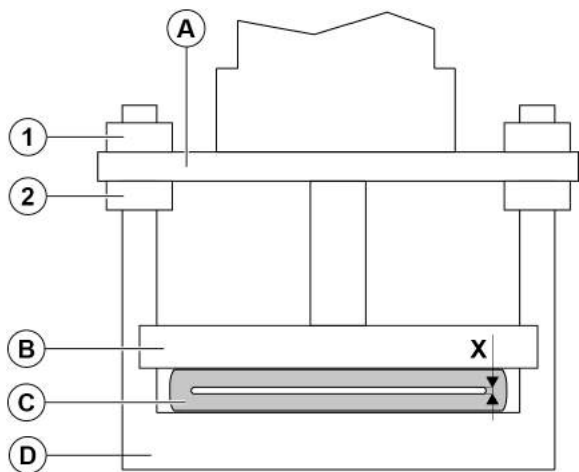

Figure 15.
3. If the valve is equipped with opening tags, loosen the fixing screws (8 pcs) at the pinch bars and pull out the opening tags (*Figure 15*).
3. Open the screws (7.) between the valve body halves and detach the lower part of the body. If the valve has opening tags, detach them (17.) from upper (3.) and lower pinch bars (4.), 8 pcs screws (*Figure 15*).